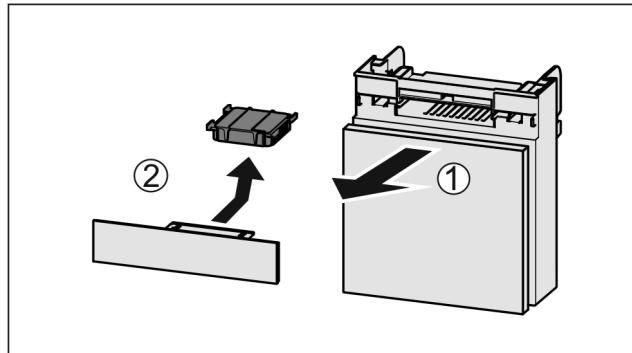

Fig. 171
- ▶ Pull out the compartment Fig. 171 (1).
- ▶ Remove the carbon filter Fig. 171 (2).